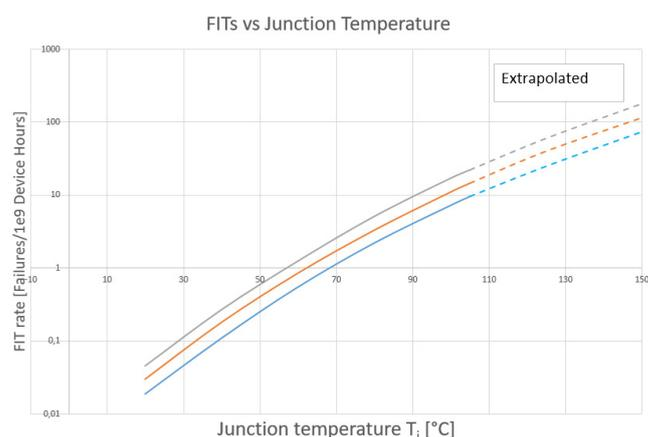

Figure 6: Typical FIT rates versus temperature extrapolated out to 150 °C.
- **Reliability:** Reliability for silicon components decreases rapidly and non-linearly as temperatures rise. This is defined in literature by a modified Arrhenius 'reliability' equation. Figure 6 shows typical FITs (Failures-In-Time) from NXP processors operating up to +105 °C. Extrapolating these out to +150 °C, reliability drops by a factor ten compared to +105 °C FITs. Such a drop in reliability has to be acceptable in the target application.